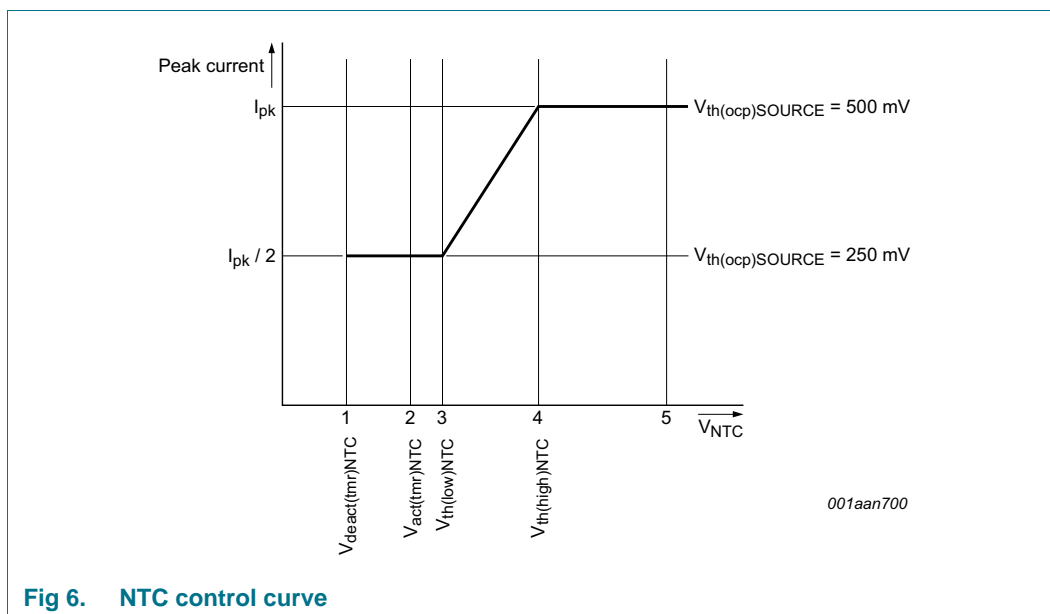

Fig 6. NTC control curve
The NTC pin can be used as a control method for LED thermal protection. Alternatively, the pin can be used as an input to disable/enable light output using a digital signal (PWM regulation). The pin has an internal current source that generates the current of $I_{offset(NTC)}$. An NTC resistor to monitor the LED temperature can be connected directly to the NTC pin. Depending on the resistance value and the corresponding voltage on the NTC pin, the converter reacts as shown in Figure 6.
When the voltage on the NTC pin exceeds $V_{th(high)NTC}$ (see Figure 6 (4)), the converter delivers nominal output current. When the voltage is lower than this level, the peak current is gradually reduced until $V_{th(low)NTC}$ is reached (see Figure 6 (3)). The peak current is now half the peak current of nominal operation. When $V_{act(tmr)NTC}$ is passed (see Figure 6 (2)), a timer starts to run to distinguish between the following situations:
- If the low-level $V_{deact(tmr)NTC}$ is not reached within time $t_{to(deact)NTC}$ (see Figure 6 (1)), LED overtemperature is detected. The IC stops switching and attempts to restart from the HV pin voltage. The converter restarts from an NTC protection shutdown when the voltage on the NTC pin exceeds $V_{th(high)NTC}$ (see Figure 6 (4)). It is assumed that the reduction in peak current does not result in a lower NTC temperature and LED OTP is activated.
- If the low-level $V_{deact(tmr)NTC}$ is reached within the time $t_{to(deact)NTC}$ (see Figure 6 (1)) it is assumed that the pin is pulled down externally. The restart function is not triggered. Instead, the output current is reduced to zero. PWM regulation and consequently LED output current regulation can be implemented this way. The output current rises again when the voltage exceeds $V_{th(low)NTC}$.
The NTC pin can be used to make a soft start function. During switch-on, the level on the NTC pin is low. By connecting a capacitor (in parallel with the NTC resistor), a time constant can be defined. The time constant causes the level on the NTC pin to increase slowly. When passing level $V_{th(low)NTC}$ (see Figure 6 (3)), the converter starts with half of the maximum current. The output current slowly increases to maximum when $V_{th(high)NTC}$ (see Figure 6 (4)) is reached.